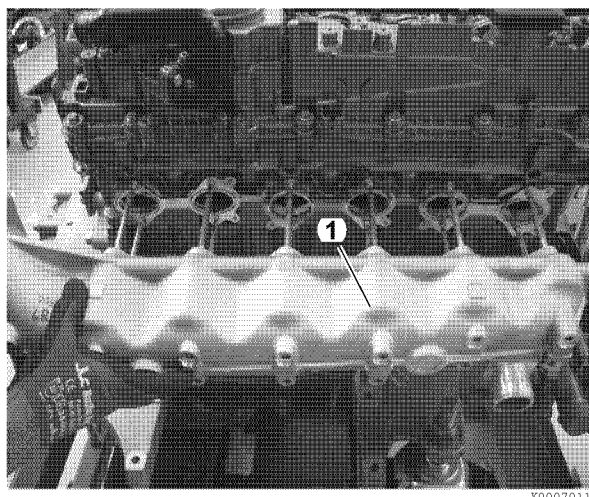

Figure 5-134
3. Remove exhaust manifold nuts and exhaust manifold (1, **Figure 5-134**).